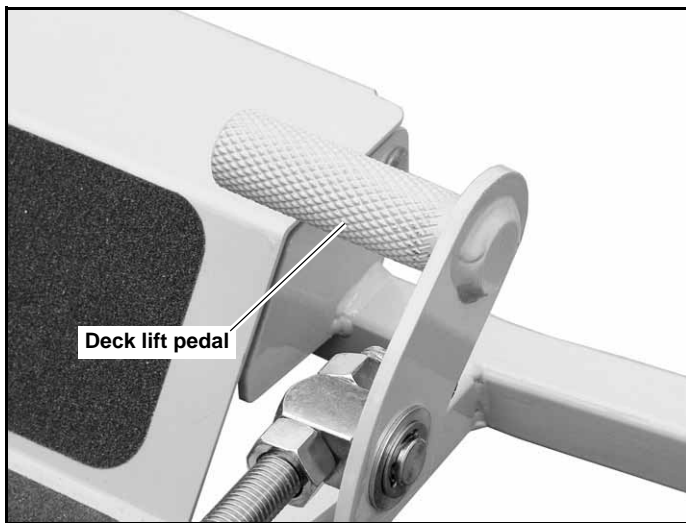

Figure 3-4
- B. Deck lift pedal (Figure 3-4)** — the deck lift pedal is used to raise or lower the deck. Push on the pedal to raise the deck and then place the deck height locking pin into the desired cutting height hole.